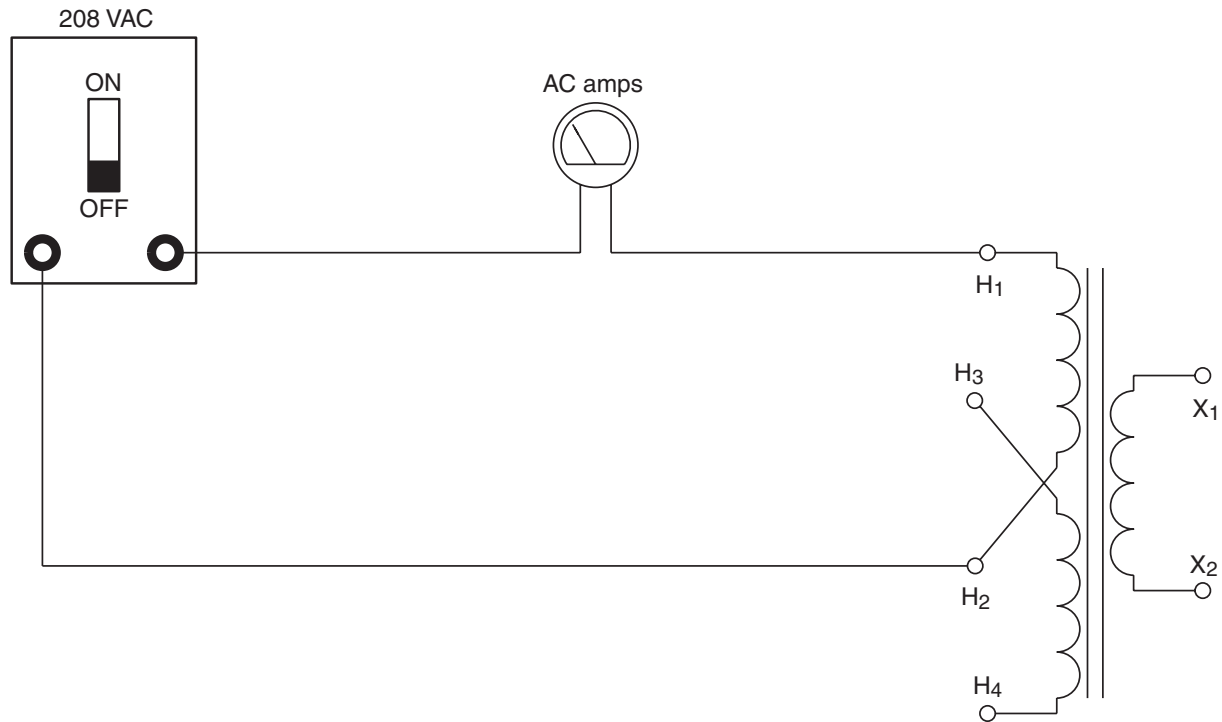

Figure 10-2 The high voltage-winding is connected to 208 volts.
11. Connect the circuit shown in Figure 10-2. Note that H_1 and H_2 are connected to a voltage of 208 VAC.